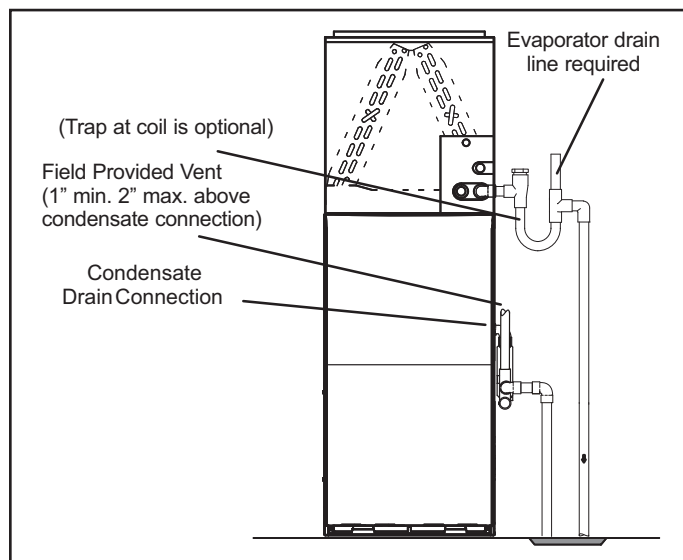
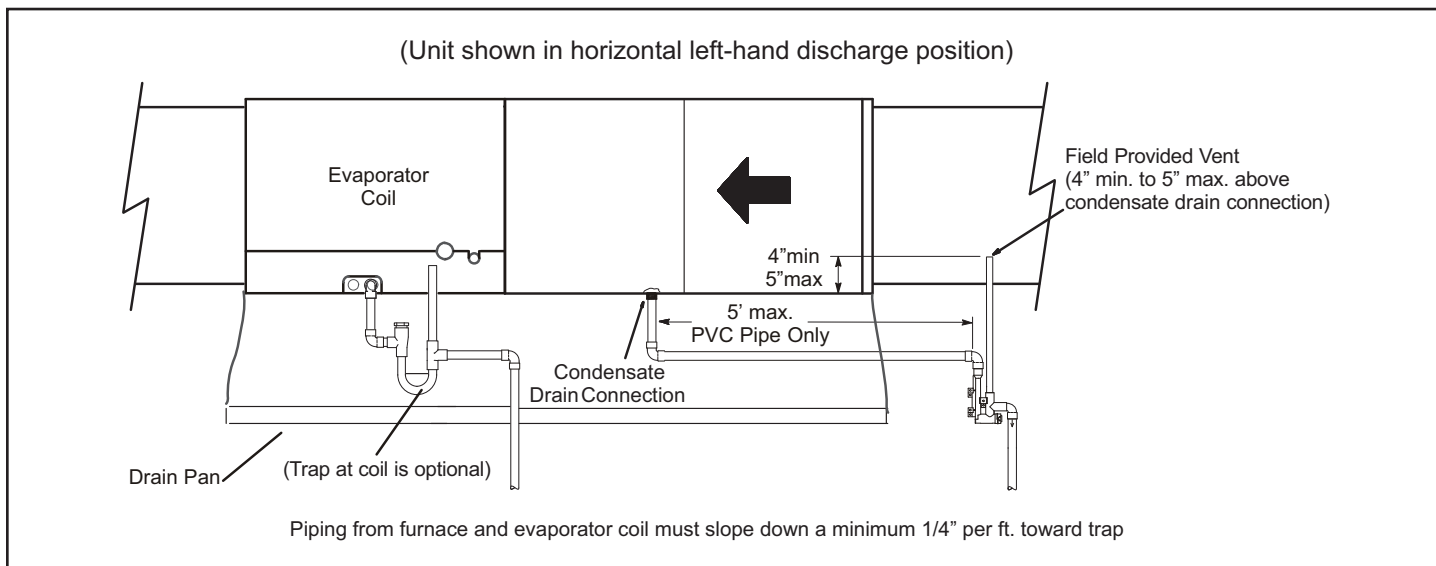
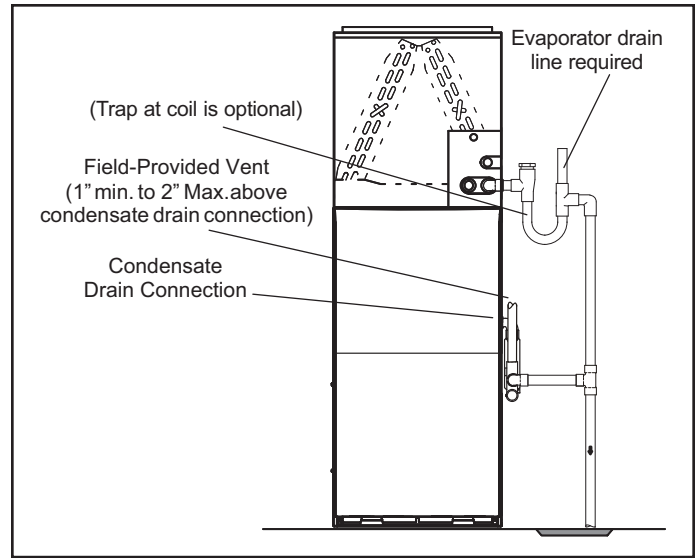
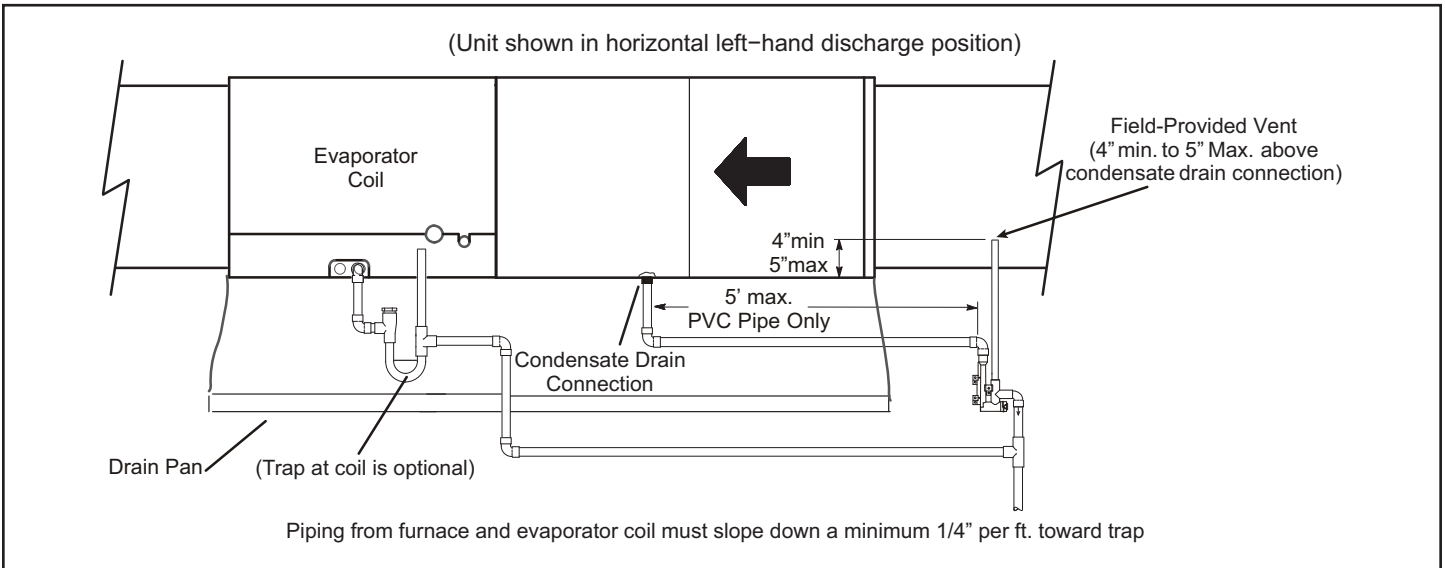

Figure 43. Furnace with Evaporator Coil Using a Separate Drain
Figure 44. Furnace with Evaporator Coil Using a Separate Drain
Figure 46. Furnace with Evaporator Coil Using a Common Drain
Figure 47. Furnace with Evaporator Coil Using a Common Drain
5. Figure 43 and Figure 44 show the furnace and evaporator coil using a separate drain. If necessary the condensate line from the furnace and evaporator coil can drain together. See Figure 46 through Figure 47.
Upflow furnace (Figure 43) - In upflow furnace applications the field provided vent must be a minimum 1" to a maximum 2" length above the condensate drain outlet connection. Any length above 2" may result in a flooded heat exchanger if the combined primary drain line were to become restricted.
Horizontal furnace (Figure 44) - In horizontal furnace applications the field provided vent must be a minimum 4" to a maximum 5" length above the condensate drain outlet connection. Any length above 5" may result in a flooded heat exchanger if the combined primary drain line were to become restricted.